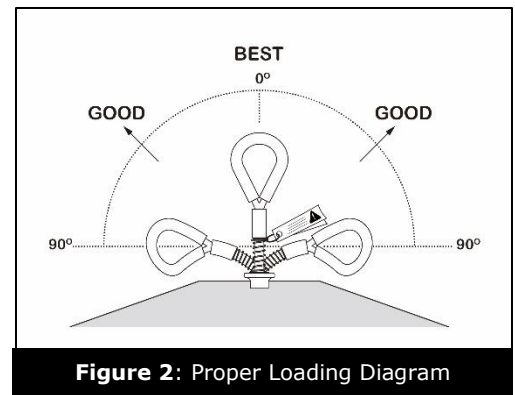

Figure 2: Proper Loading Diagram
- 4.2 PERMISSABLE DIRECTIONS OF LOADING:** The anchorage connector may not be subject to forces outside of allowable range shown in Figure 2.